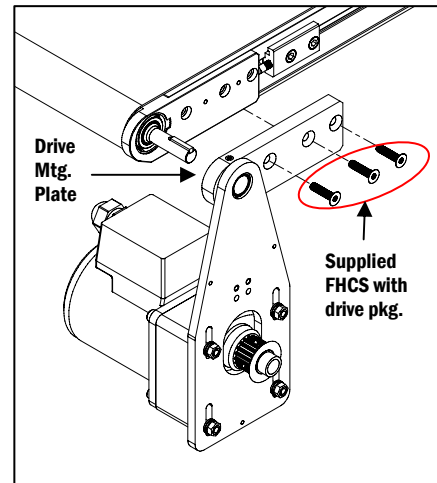

Figure 5
③ Install the Drive Mounting Package
- b. Install and tighten the M6 Flat Head Screws included with the drive mounting package into the countersunk holes of the Drive Mounting Plate (**Figure 5**).